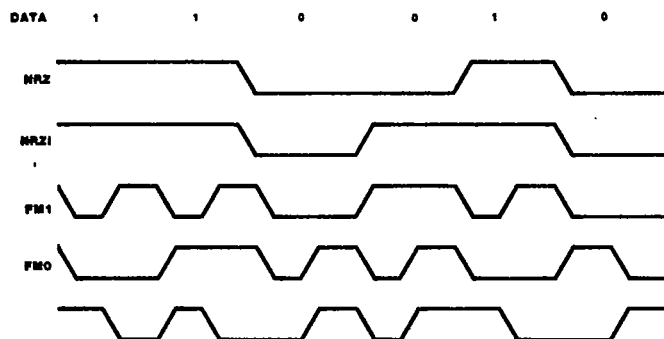

Figure 6. Data Encoding Methods
**Data Encoding.** The SCC may be programmed to encode and decode the serial data in four different ways (Figure 6). In NRZ encoding, a 1 is represented by a High level and a 0 is represented by a Low level. In NRZI encoding, a 1 is represented by no change in level and a 0 is represented by a change in level. In FM1 (more properly, bi-phase mark), a transition occurs at the beginning of every bit cell. A 1 is represented by an additional transition at the center of the bit cell and a 0 is represented by no additional transition at the center of the bit cell. In FM0 (bi-phase space), a